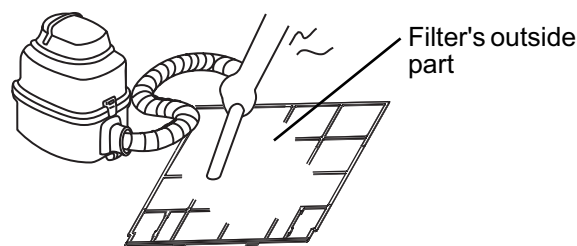

Fig.4
- If the cleaning is carried out with a vacuum cleaner, the filter's outside part must be oriented towards you (Fig. 4).